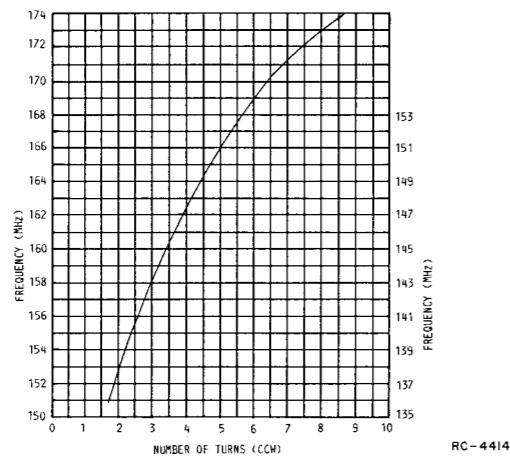

Figure 6 - 136-174 MHz Preset Tuning Chart
- Preset C6 and C7 as shown in Figure 6.